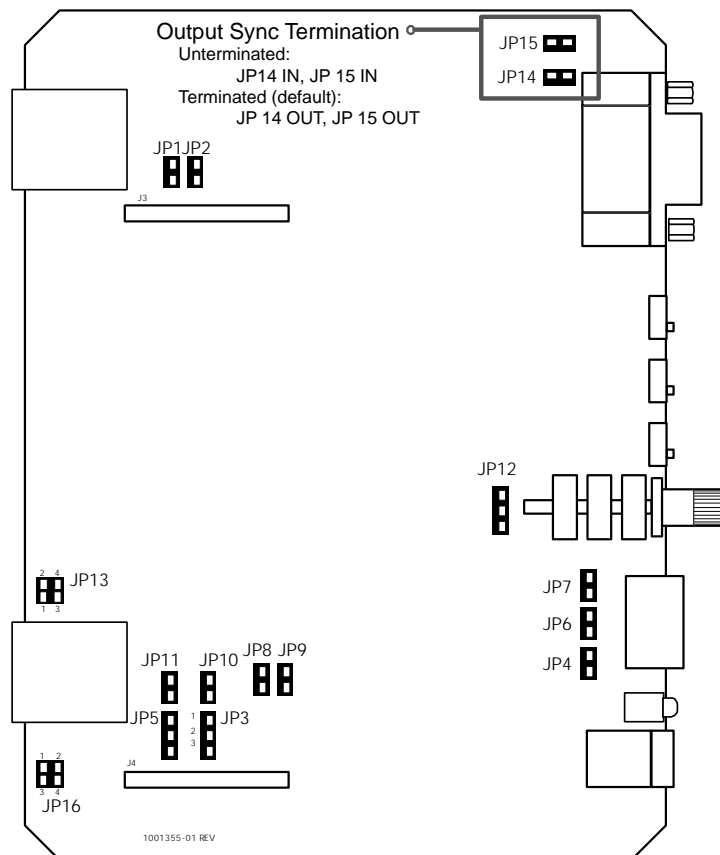

Figure 4-9. Jumper Settings for Output Sync Termination
- Referring to (Figure 4-9) place jumpers into locations JP14 and JP15.